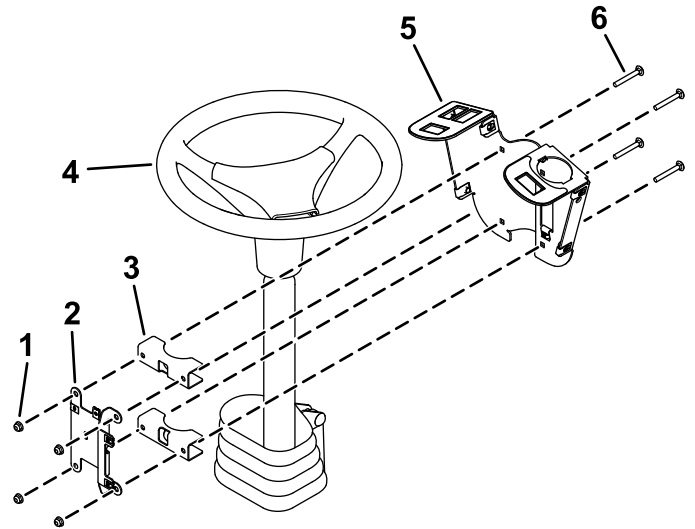

Figure 4
- Loosely install the switch mount around the steering column using 4 carriage bolts (1/4 x 2 inches), 2 mounting brackets, fuse-mount plate, and 4 locknuts (1/4 inch) as shown in Figure 4.